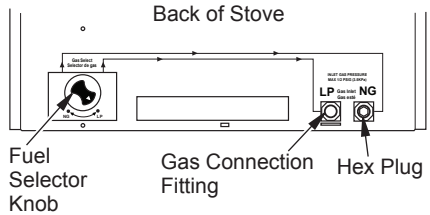

Figure 8 - Settings for Propane/LP Gas Selection
2. For PROPANE GAS, press in knob using a flat screwdriver with a blade the thickness of a quarter and turn knob counterclockwise  until the knob locks into the LP position (see Figure 8). Fuel selection device must be locked in the LP position. Do not operate heater between locked positions.
4. Remove hex plug (with wrench provided) from propane/LP gas inlet of regulator (see Figure 8). Install hex plug into NG inlet of regulator. Install gas line into LP inlet of regulator. Use thread sealant to assure there are no leaks.